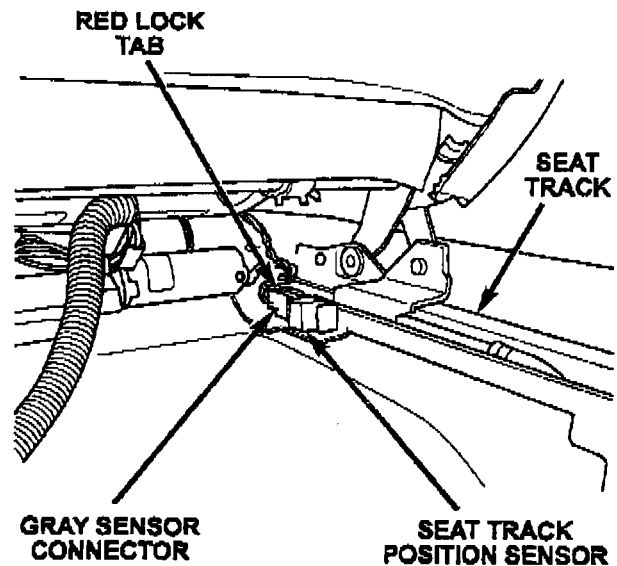

Figure 1 – Backside of Driver's Seat View
4. For four door models, locate the seat track position sensor on the seat track. Slide the red lock tab forward on the gray electrical connector (Figure 1).